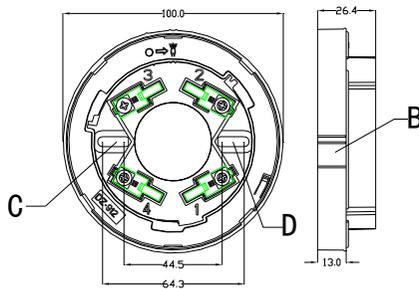

Fig.6
2. Use two M4 screws to fix the matched mounting base on the designated position via the mounting holes C and D shown in Fig.6, as instructed in the construction drawing and make sure the matched mounting base has been firmly installed.